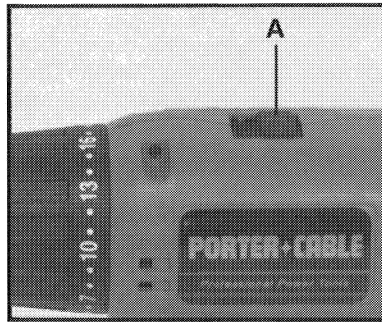

Fig. 4
The Model 873 Cordless Driver/Drill has a two-speed gear shift which provides spindle speed ranges of approximately: 0 to 400 RPM (LOW) and 0 to 1450 RPM (HIGH). To change speed ranges: release trigger switch to stop motor and then slide speed selector (A) Fig. 4, toward rear for HIGH speed or toward front for LOW speed.